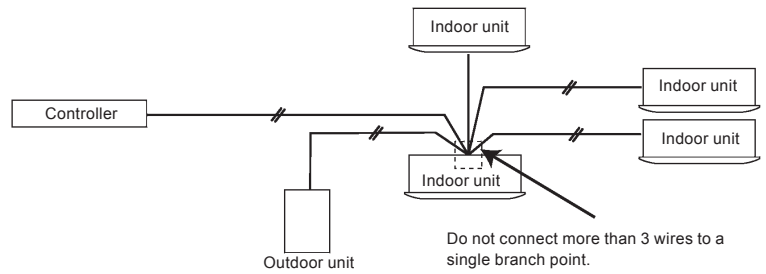

Figure 8
- Use up to three wires for a branch. Four or more wires are prohibited. (Figure 8)
- ④ Star system is prohibited. (Figure 8)